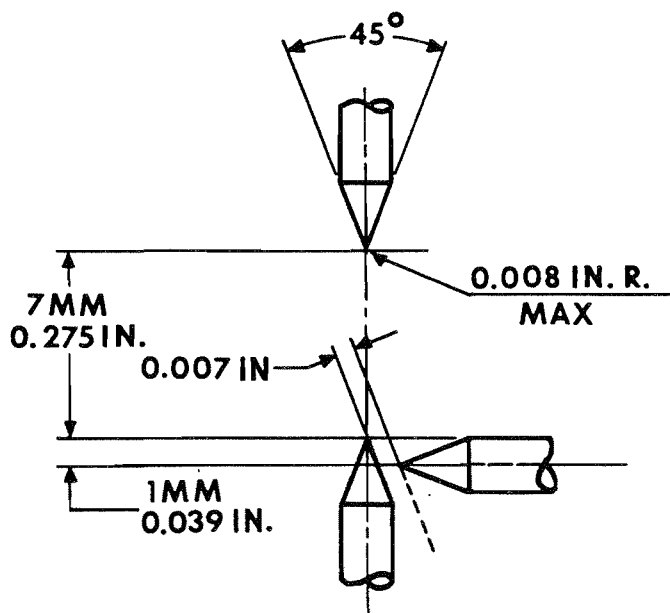

Figure 301. 7 mm Spark Gap Setting
A. Mount magneto on a 11-10500 test stand. Connect high tension outlets to spark gaps on test stand using a standard high tension outlet assembly. The spark gaps must be set at 7 mm (0.276 in) as shown in Figure 301.